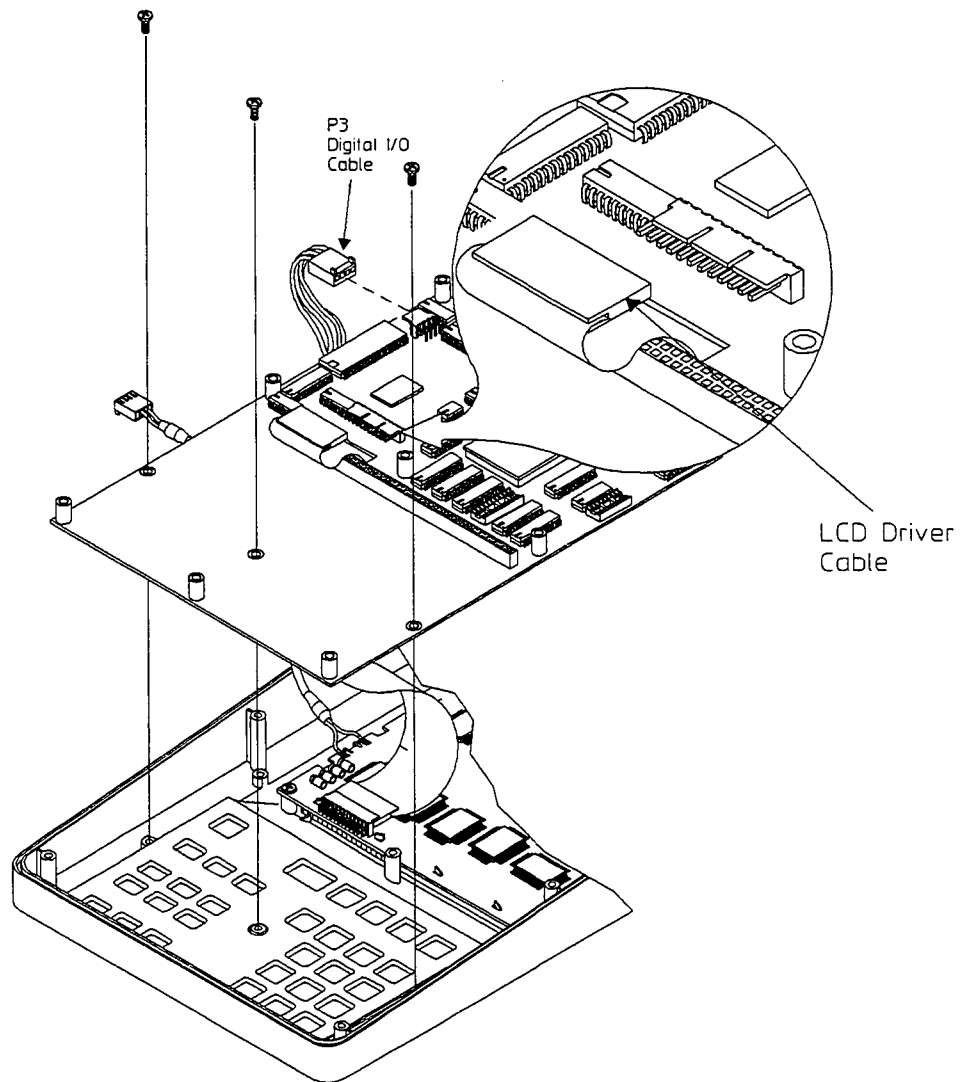

Figure 6-6.
1. Remove the three screws holding the A1 assembly as shown in figure 6-6.
2. Carefully disconnect the LCD driver cable and push it through the slot so it is under the A1 assembly as shown in figure 6-6. Disconnect the Digital IO cable at P3.